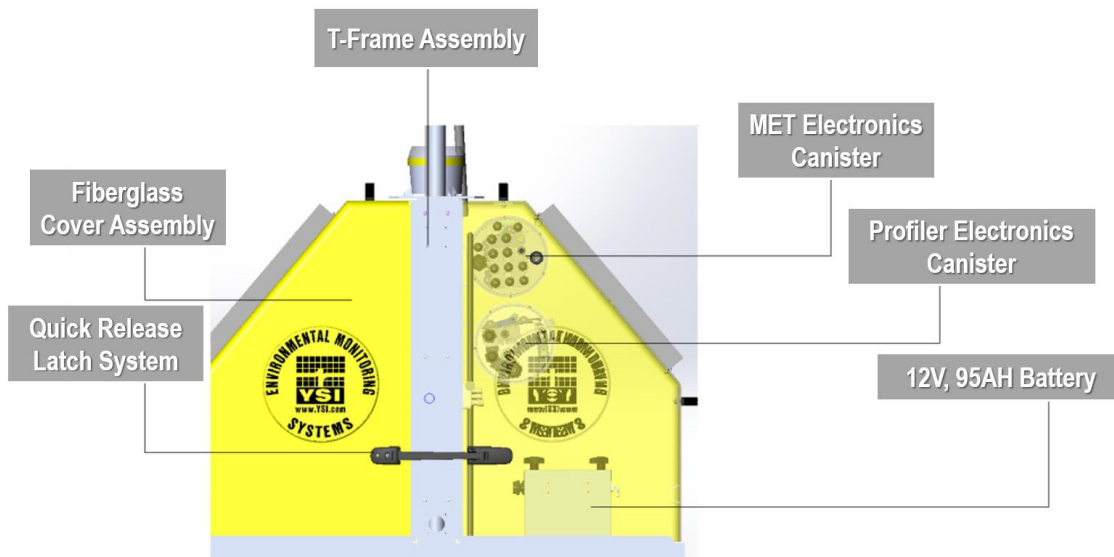

Figure 83. T-Frame/Cover Exterior and Interior Components
1. Unlatch and slide off the fiberglass T-Frame cover where the PVC canisters reside (the canisters face the stern of the AIS Buoy). Reference Figure 83.